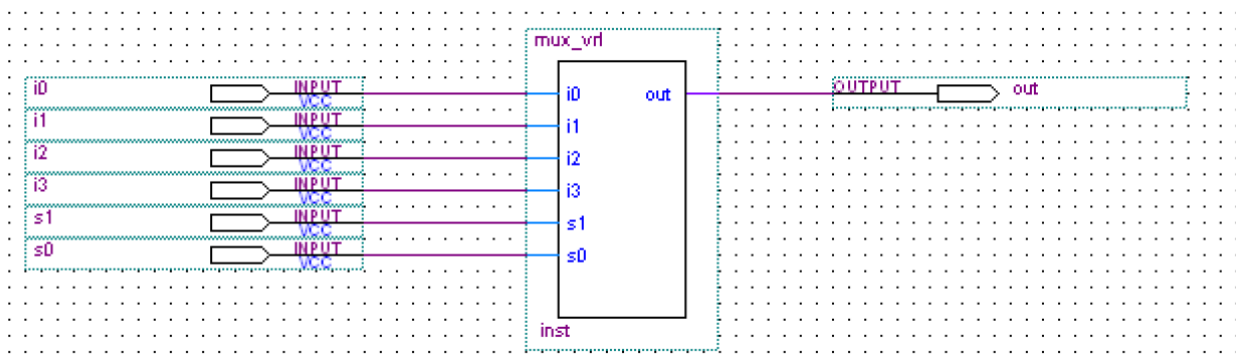

Figure 3.4: Combined schematic mux_schver.
4. Create a new Block Diagram/Schematic file, place the mux_vr1 symbol from the project library, and connect its inputs and output to input/output pads as shown in Figure 3.4.